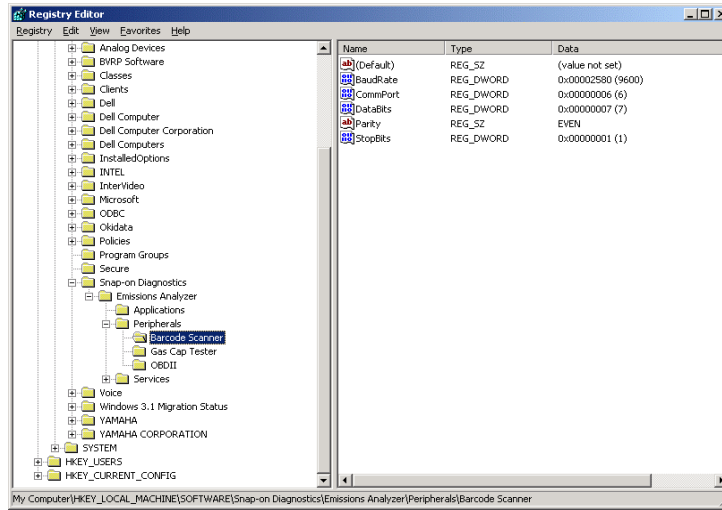

Figure 1, Registry Editor
3. Enter the system registry by clicking "Start", "Run". Type REGEDIT and press <Enter>. Navigate to the following as shown in Figure 1. HKEY\_LOCAL\_MACHINE\Software\Snap-on Diagnostics\Emissions Analyzer\Peripherals.